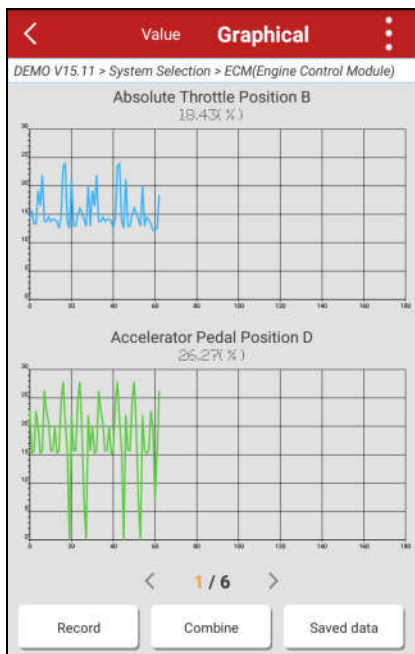

Fig. 5-12
- ✓ **Graph** – displays the parameters in waveform graphs. Refer to Fig. 5-12.